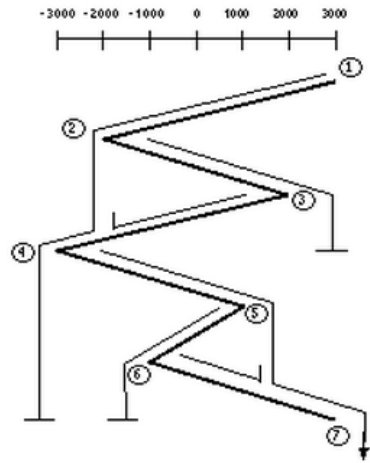

Figure 10 - Rainflow principle
3. Let “rain” or “water” flow from different sources (see figure 10):